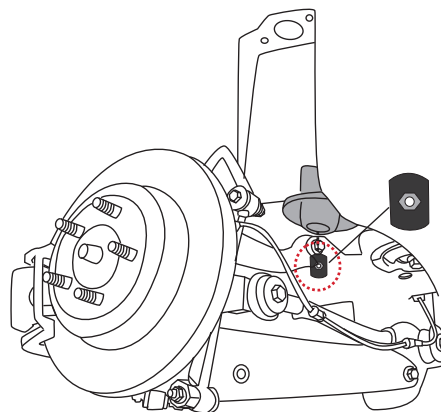

fig. 3
1. Insert the clamp plate (L) into upper spring perch with the nut facing upward (Fig. 3).